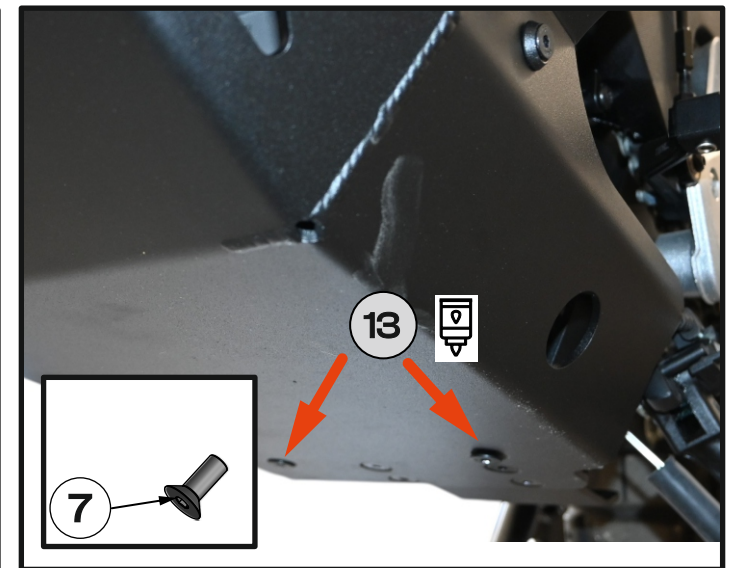

Fig. 15
13. Loosely fasten the skid plate **[1]** using bolt **[7]** with washer **[13]** at the selected mounting points. **[Fig. 15]**